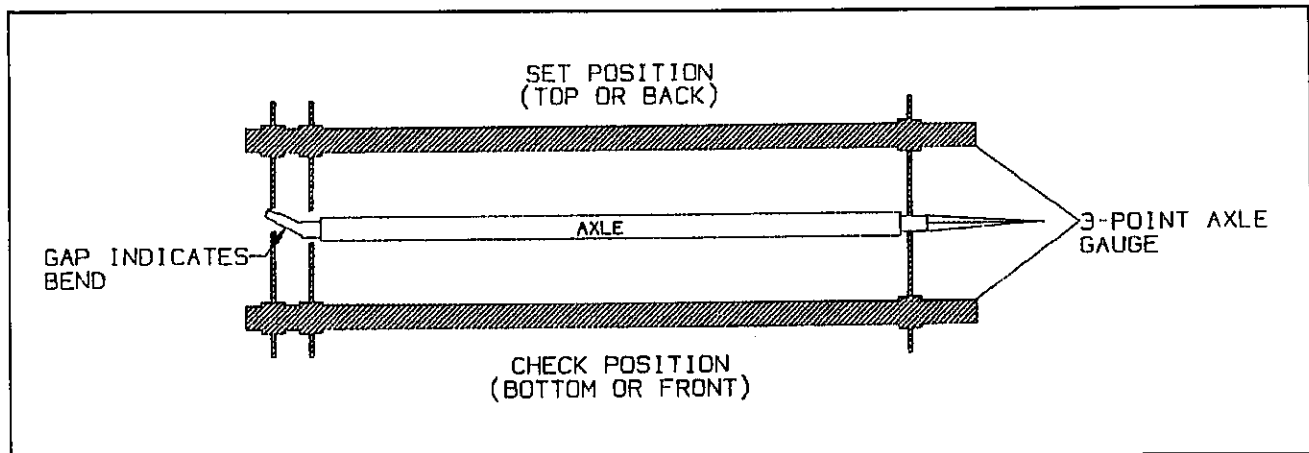

Fig. 4-7 Checking Axle for Bend
other point on the inner bearing surface on the other spindle)(see Figure 4-7).
c. Move the axle gauge and place against the back side of the axle. If either of the points of double point end fails to touch the axle surface, a bent spindle is evident. A point gap of .015" or more is considered excessive tire "toe" and the axle must be replaced (see Figure 4-7).